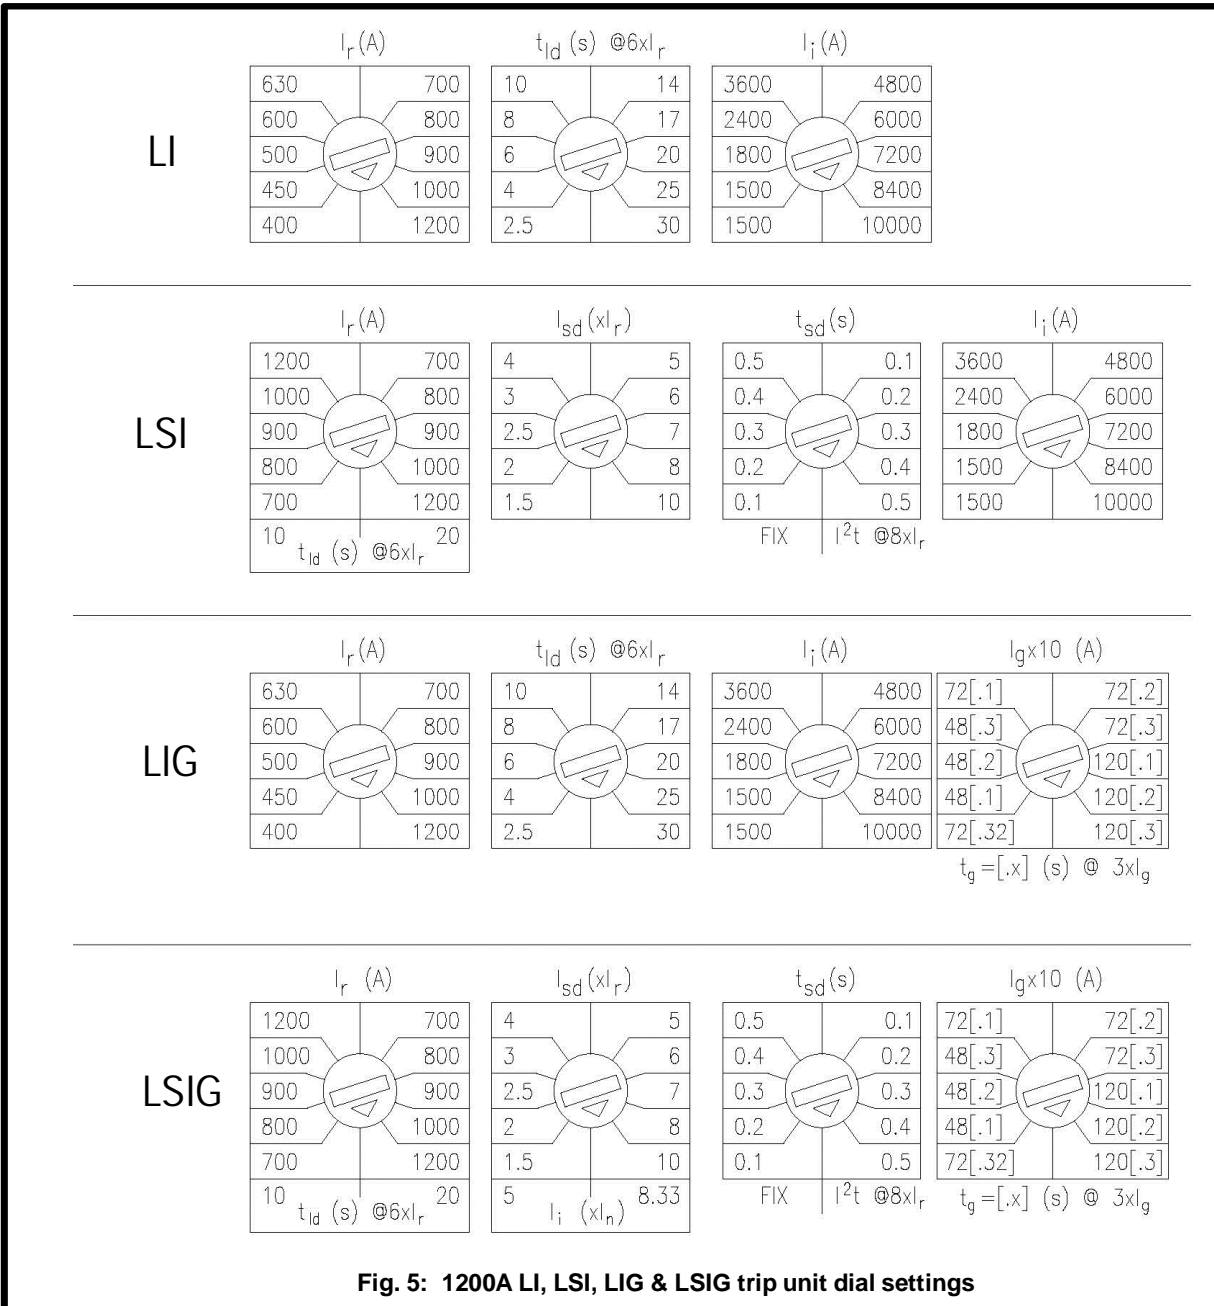

Fig. 5: 1200A LI, LSI, LIG & LSIG trip unit dial settings
All model types have an adjustable Continuous Current dial setting. The first dial is always used to adjust the Continuous Current setting of the circuit breaker and the markings are displayed in Amps. The Long Time Pickup (I_{ld}) setting is set to I_r x 1.15. LI and LIG configurations have ten (10) adjustable settings and the LSI and LSIG configurations have five (5) adjustable settings. See Fig. 5 for an example of the four 1200A configurations.